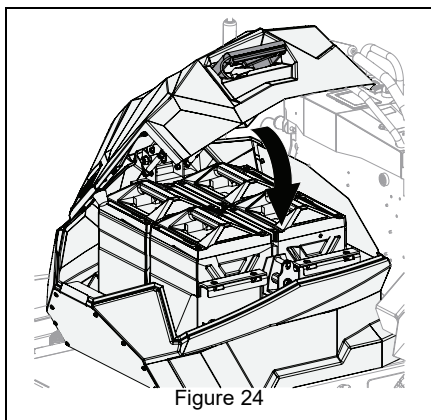

Figure 24
7. Ensure hood assembly is closed handle is securely latched. See Figure 24.